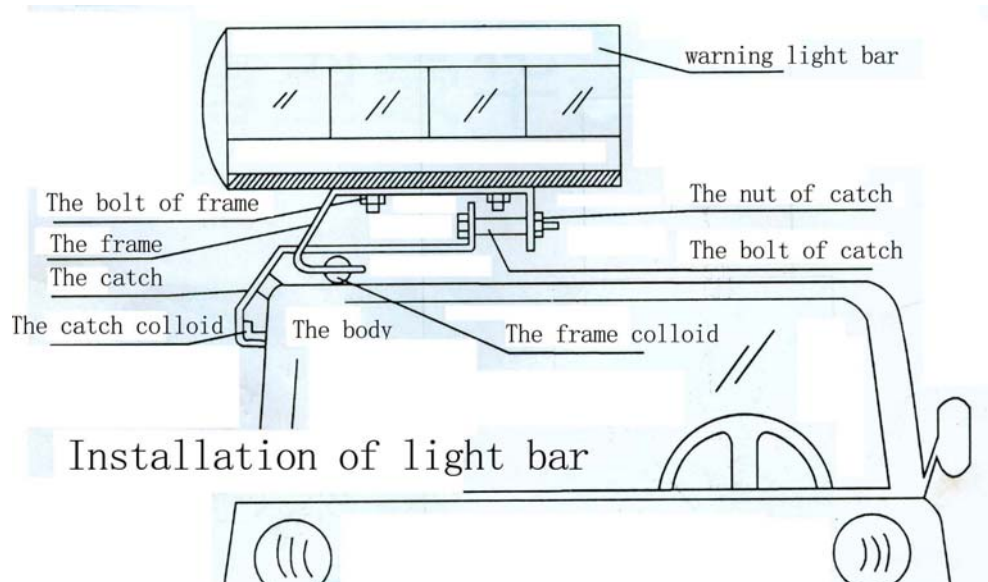

Fig.1. Installing
- 3.1. Put light bar on the back of the vehicle, base on the vehicle's size, adjusting the frame to fit it, And Then making the catch button the rainwater line on both side of the vehicle and screwing the nut by wrench. (Re. Figure 1)